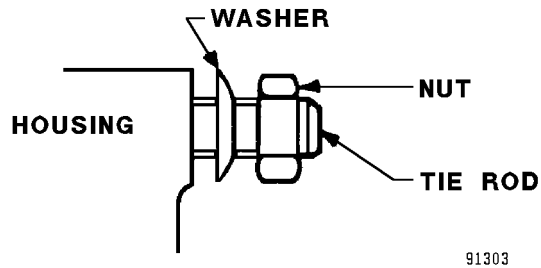

FIGURE 8-3. TIE ROD INSTALLATION
4. Install the four tie rods with the dished washer between the nut and housing (Figure 8-3).